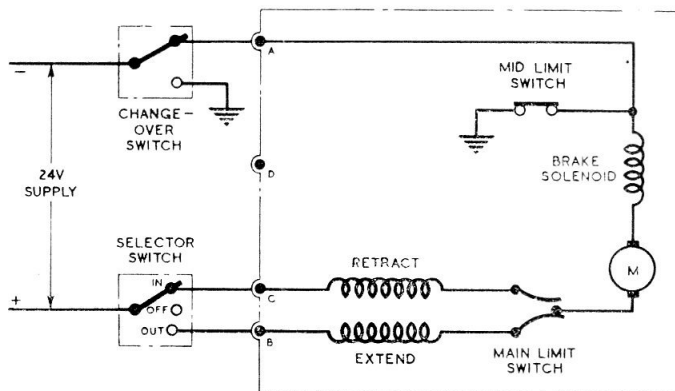

Fig. 2. Circuit diagram
3. The circuit diagram (fig. 2) is primarily for the actuator alone. For details of the wiring for a particular installation, reference should be made to the relevant Aircraft Handbook.